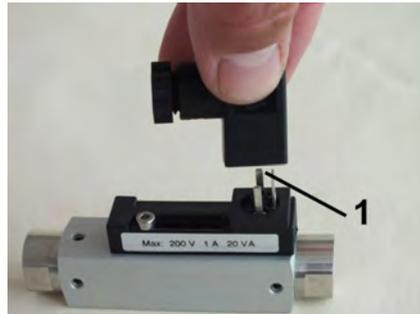

Fig. 22: Remove socket
- 2.** ➤ Remove the socket (Fig. 22/1)